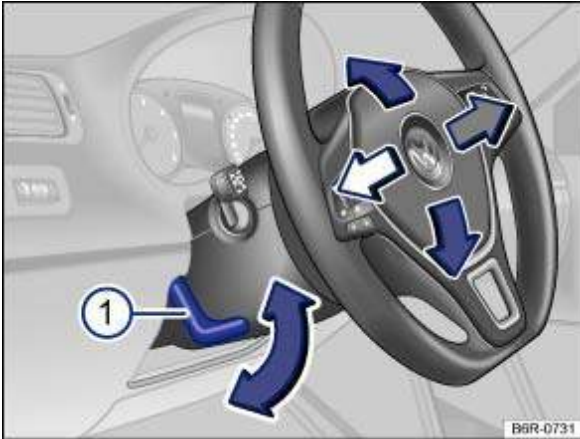

Fig. 45 Adjusting the steering wheel position mechanically
- Push down the lever → *Fig. 45* ① .
- After adjusting the steering column, always move lever → *Fig. 45* ① up so that it engages securely. This prevents the steering column from moving spontaneously while the vehicle is in motion.